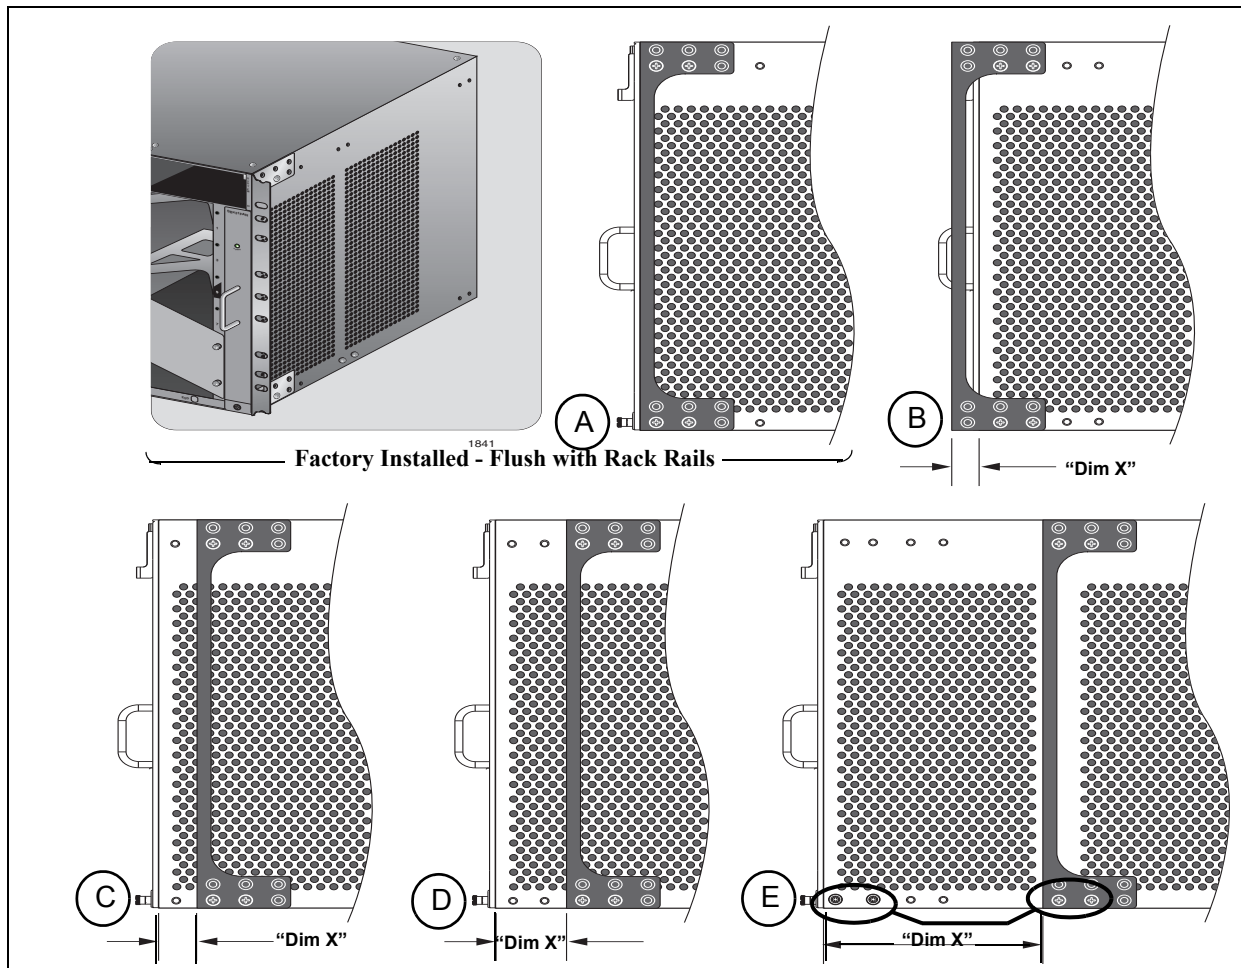
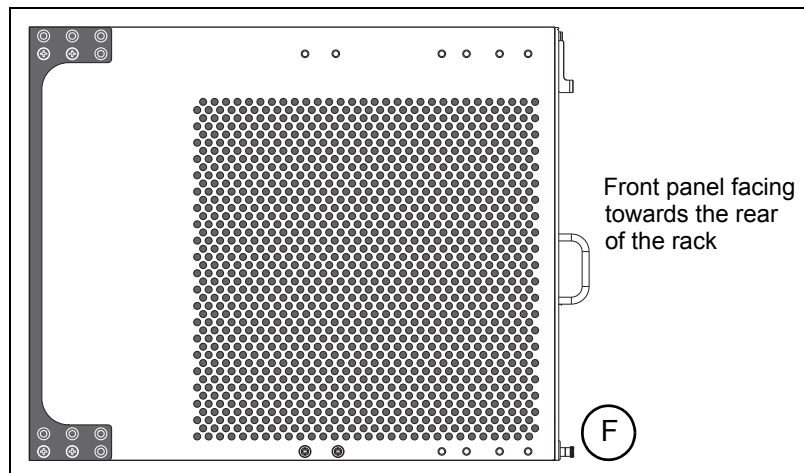

Figure 23. Rack Mounting Bracket Locations
Figure 24. Rack Bracket Locations for Reverse Position of Chassis
Before installing the AT-SBx3112 Chassis, you need to determine where the horizontal position of the chassis front panel will be relative to the vertical rack rails. The AT-SBx3112 Chassis rack mounting brackets come installed from the factory so that the chassis is flush with the rack rails after installation. See position “A” in Figure 23 on page 54.
You may decide to extend (positions “B” through “E” in Figure 23 on page 54) or recess (position “F” in Figure 24 on page 55) the horizontal position of the chassis relative to the rack mounting rails. You can do this by removing both rack mounting rails and re-attaching them in the appropriate holes on each side of the chassis. The dimension (X) between the front panel and the rack rails is given in Table 13 for each rack mounting bracket position.
If you elect to mount the rack mount brackets in position “E”, the two chassis screws from the bottom-middle section of the chassis must be re-installed in the front where the rack mount bracket screws were originally as displayed in Figure 23.